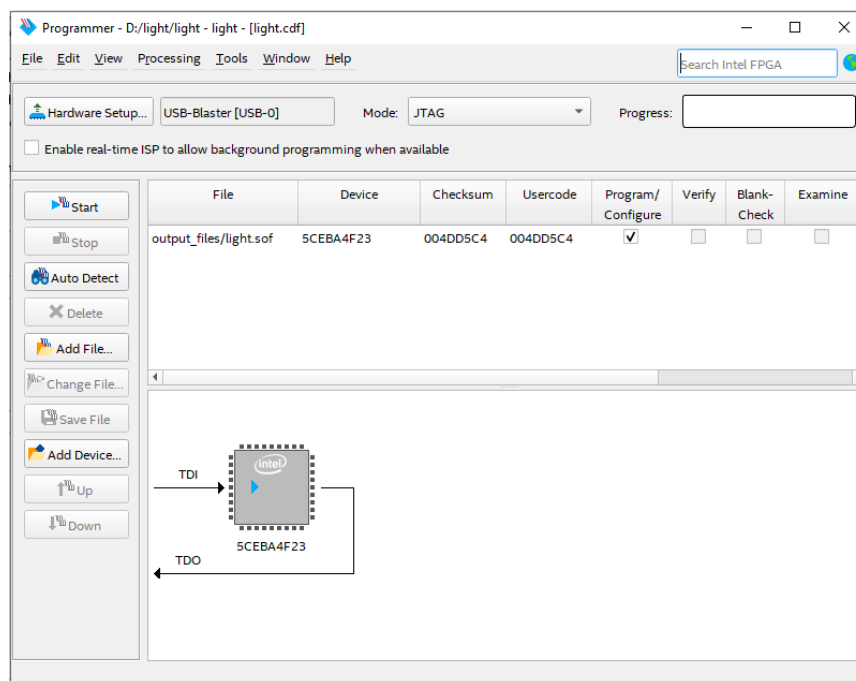

Figure 19. FPGA detected in Quartus programmer
1. Select **Program Device** from **Task Menu**, which leads to the window in Figure 19.